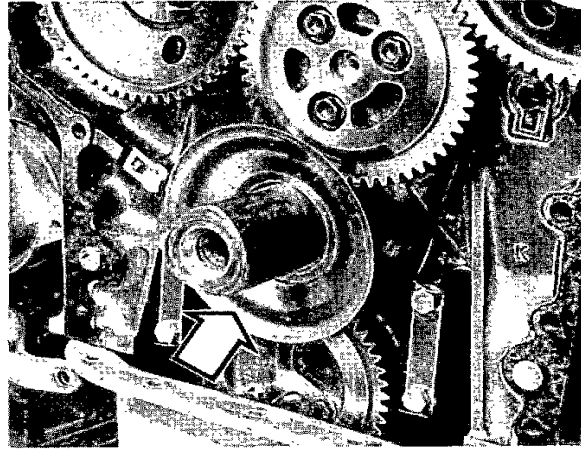

Fig. 70. Oil deflector
6. Fit the oil deflector on the crankshaft journal with the dish facing forwards (fig. 70). The oil deflector has been deleted on the 120-series from and incl. engine no. 91926/xxxx, see page 21.